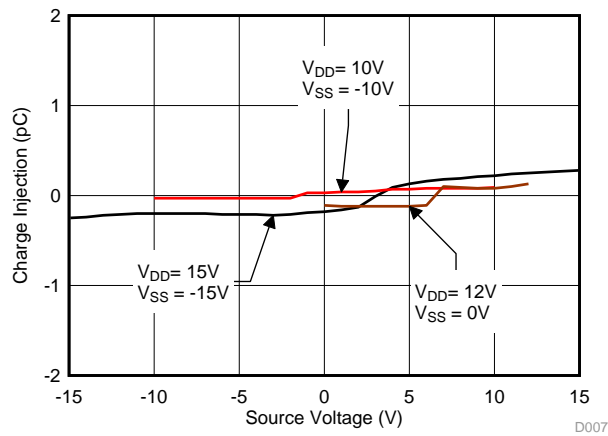

图 32. Charge Injection vs Source Voltage
The TMUX6119 utilizes special charge-injection cancellation circuitry that reduces the source (SA or SB)-to-drain (D) charge injection to as low as 0.19 pC at  $V_S = 0$  V, as shown in 图 32.